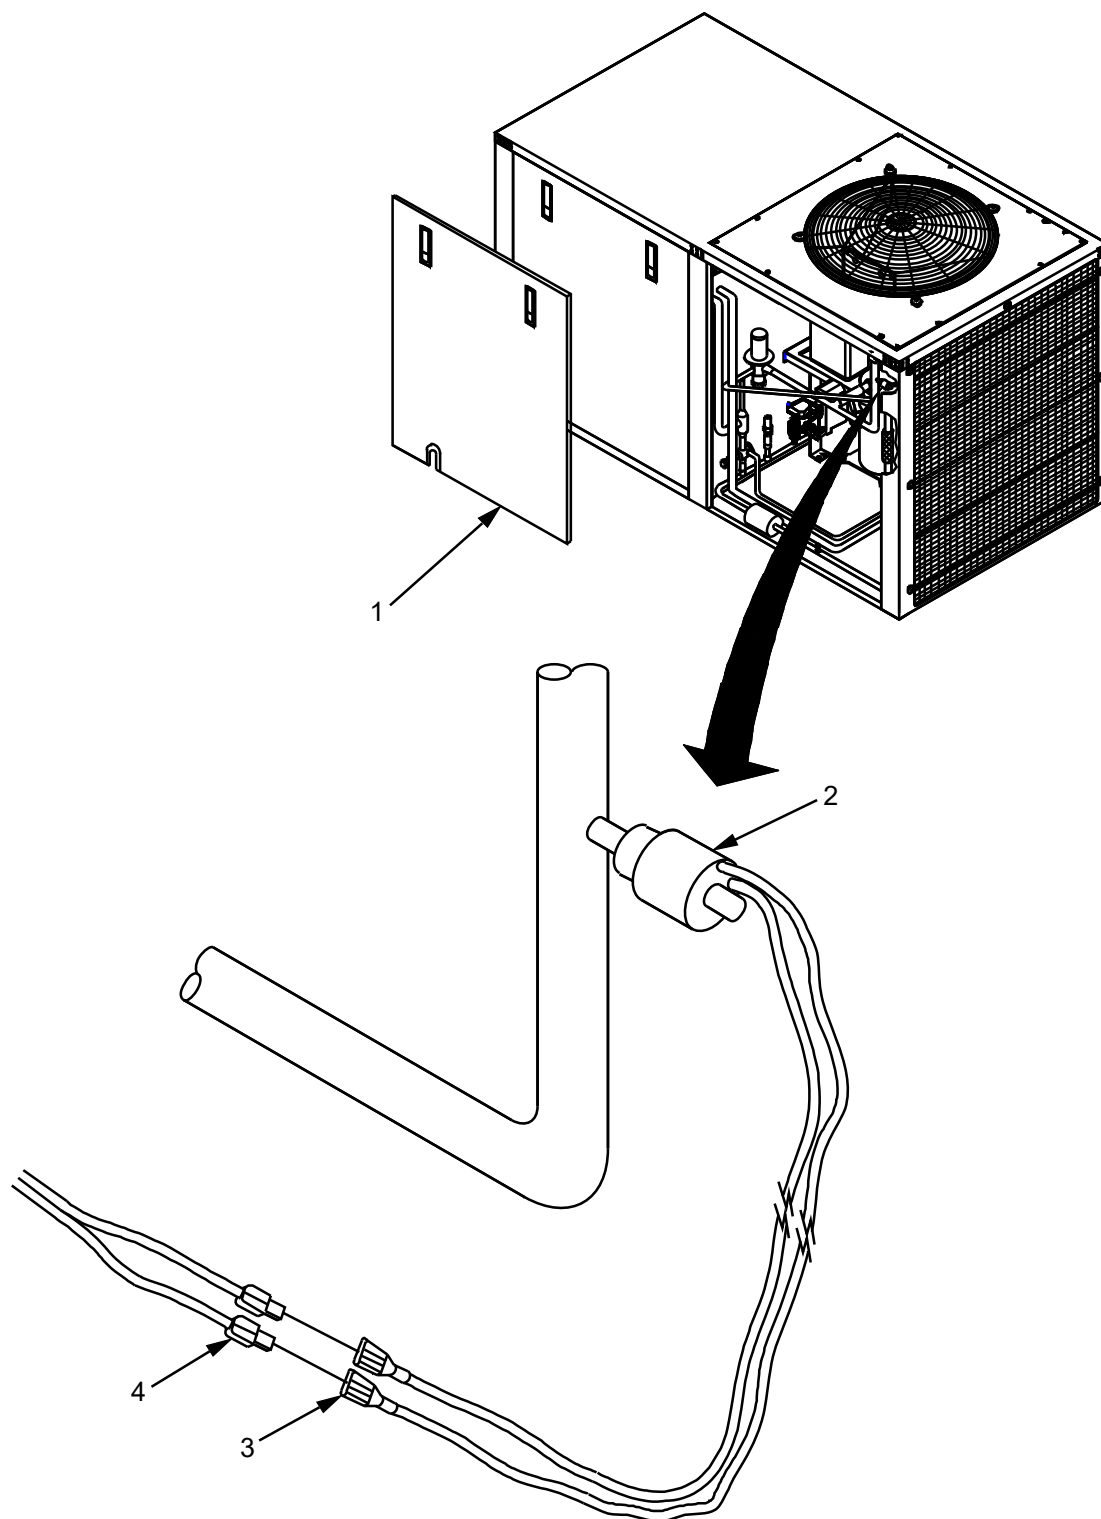

Figure 2. High Pressure Cut-Off Switch Replace.
2. Remove access panel (Figure 2, Item 1) from ECU and set aside.
4. Mark and disconnect two terminals (43B and 44A) (Figure 2, Item 4) from high pressure cut-off switch electrical connection (Figure 2, Item 3) and set aside.
5. Debraze mounting joint as described in WP 0115 and remove high pressure cut-off switch (Figure 2, Item 2).
1. Install high pressure cut-off switch (Figure 2, Item 2) and braze mounting joint as described in WP 0115.
2. Connect two terminals (43B and 44A) (Figure 2, Item 4) from wiring harness to high pressure cut-off switch electrical connection (Figure 2, Item 3) and cover with appropriate insulation.
6. Replace access panel (Figure 2, Item 1).